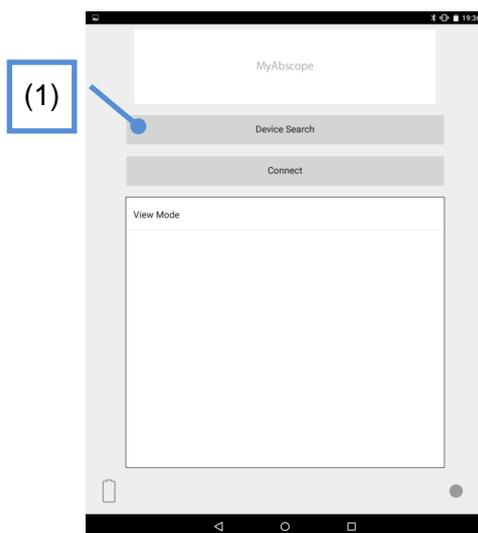
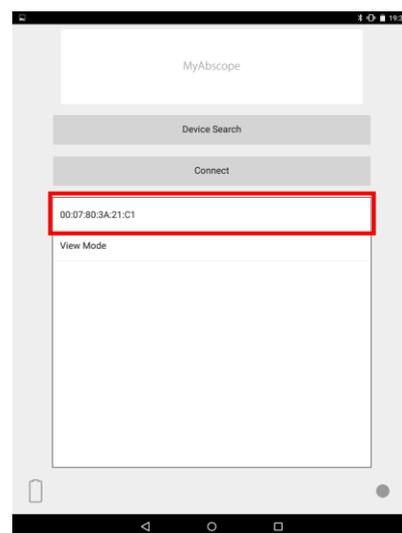

Figure 2-3: If not found
Figure 2-4: If found
- (4) Tap the “Device Search” button (1) to search for a connectable main unit. If no unit is found (Figure 2-3), turn ON the power of the main unit again and tap the “Device Search” button. If found, the Bluetooth device address is displayed as shown in Figure 2-4.